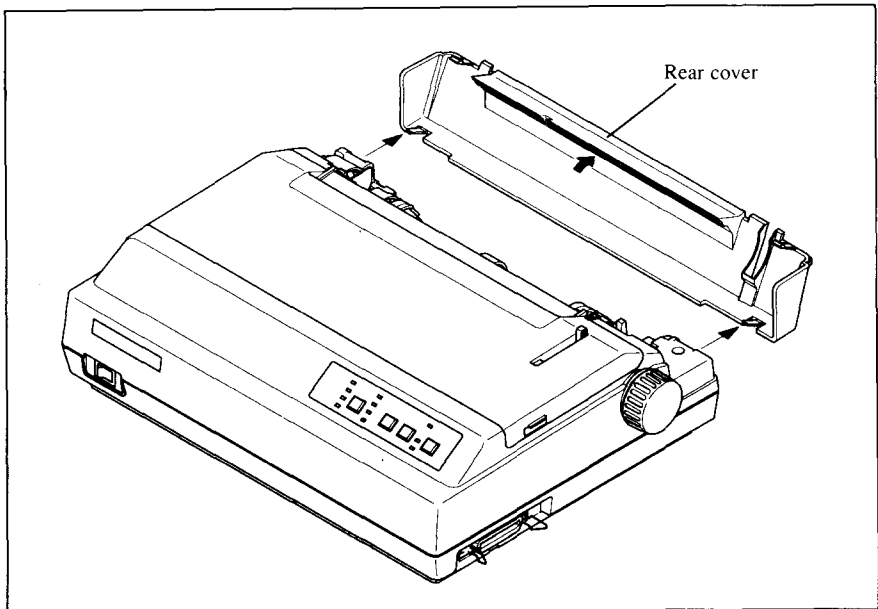

Figure 1-10. Removing the rear cover
5. Remove the rear cover using the two grips on either side, and push backwards as shown in Figure 1-10.